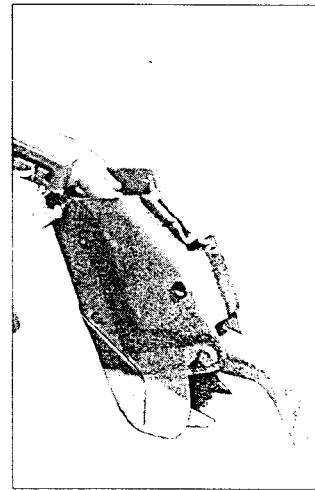

Fig. 27
- Bandseeding coulters (band width approx. 8.5 cm) Fig. 27